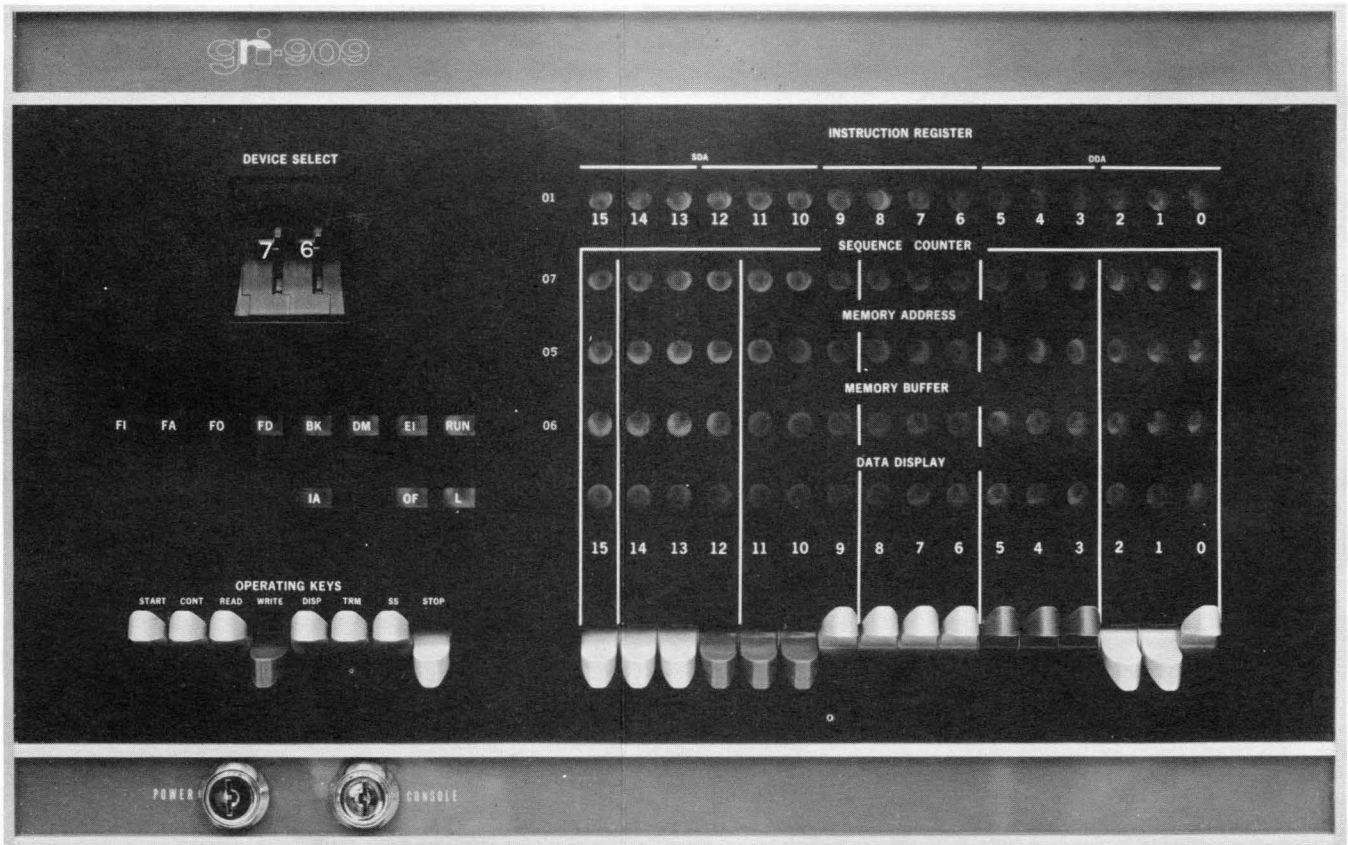

Figure 2-1 GRI-909 Front Panel With Programmer's Console
Figure 2-1 shows the GRI-909 console. The controls (OPERATING KEYS on the lower left of the console and Data Switch Register toggle switches on the lower right) are used to input data to any device in the system. The indicators on the left (FI, FA, FO, etc.) display internal computer conditions. The indicators on the right display the contents of the various processor registers, INSTRUCTION REGISTER (IR), SEQUENCE COUNTER (SC), MEMORY ADDRESS (MA), MEMORY BUFFER (MB), and DATA DISPLAY (DD). When any indicator is lit, the associated flip-flop is in the 1 state (or true state). When an indicator is out, the associated flip-flop is in the 0 state (false).